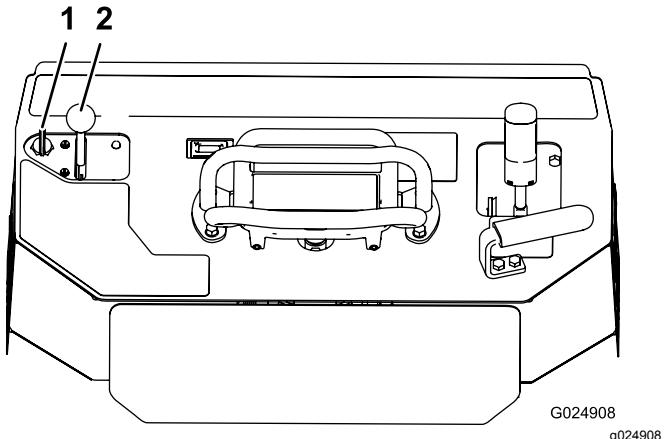

Figure 18
1. Move the throttle lever midway between the SLOW and FAST positions (Figure 18).
2. Turn the key to the ON position (Figure 18). When the engine starts, release the key.
3. Move the throttle lever to the desired setting (Figure 18).
2. Move the throttle lever to the **SLOW** position (Figure 18).